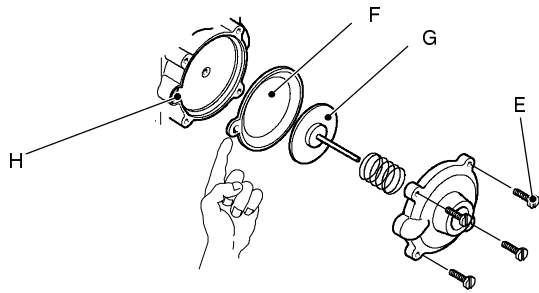

Fig. 52
- 3 Unscrew the four screws E (see Fig. 52) open the hydraulic operator and remove the membrane F.
When assembling the membrane, ensure that its concave side faces towards the actuator plate G and the reference indicated aligns with the seat H (see Fig. 52).